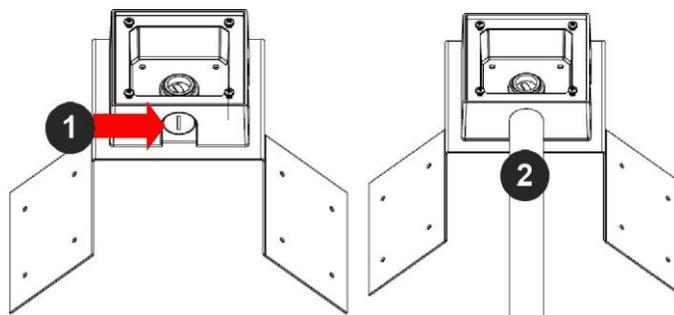

Figure 1: Attach conduit to SV-JBA junction box adapter
3. Attach the Junction Box Adapter to the Corner Mount Adapter as shown in Figure 1.
4. Remove the conduit plug on the junction box adapter and connect 3/4" NPT conduit to the junction box adapter as shown in Figure 1.